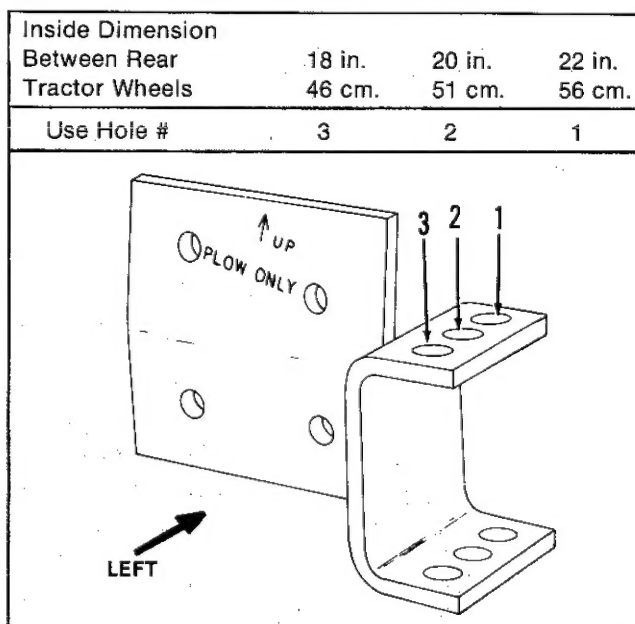

Figure 3. Yoke Hole Identification
2. Refer to figure 3 to determine the proper hitch attaching hole on the yoke.
If plowing conditions are poor, the width of cut can be reduced. To do this, hitch the yoke one or two holes to left of hole recommended in figure 3 on page 5. This will move the plow toward the right, which will reduce the width of cut.